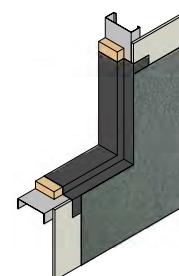

Figure 11
4. Allow MasterSeal AWB 900 to skin before applying MasterSeal AWB to sheathing. Lap MasterSeal AWB 660, MasterSeal AWB 665 or MasterSeal AWB 660 I a minimum of 2-inches onto MasterSeal AWB 900, creating a continuous, monolithic air/water-resistive barrier. (See Figure 11 or 15).